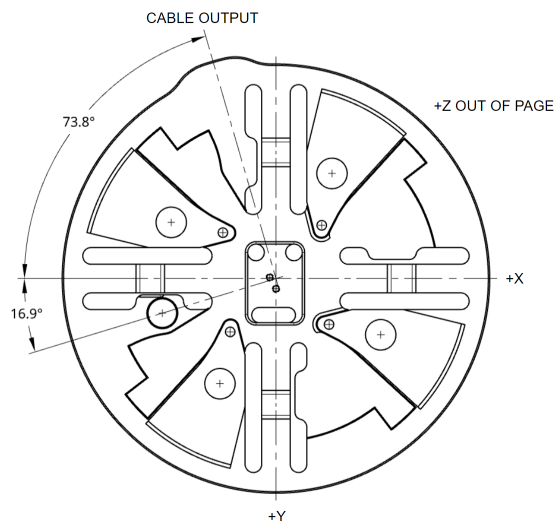

Figure 4: Coordinate system of the ASY-00035-001 sensing system
- The coordinate system for the sensing system is shown below in Figure 4.